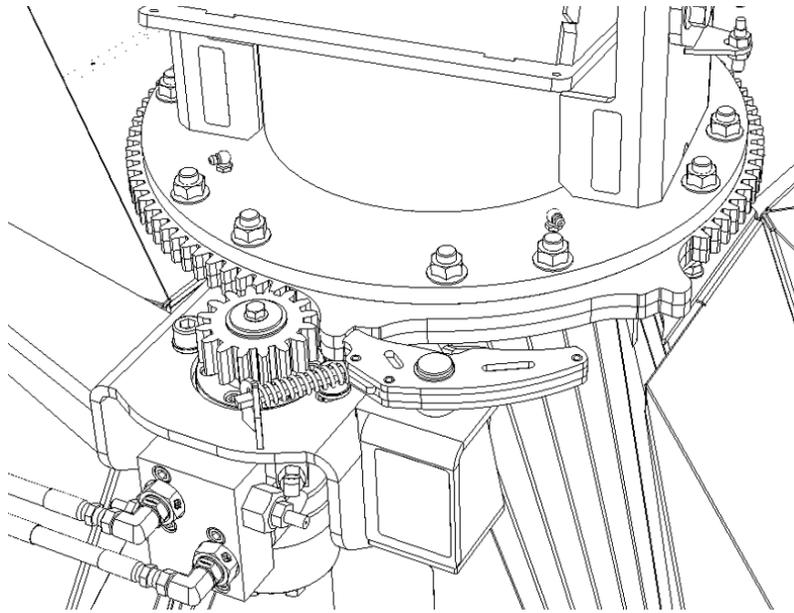

Figure 94 Spout in locked position
8. Make sure the spout is locked. (FIGURE 94).